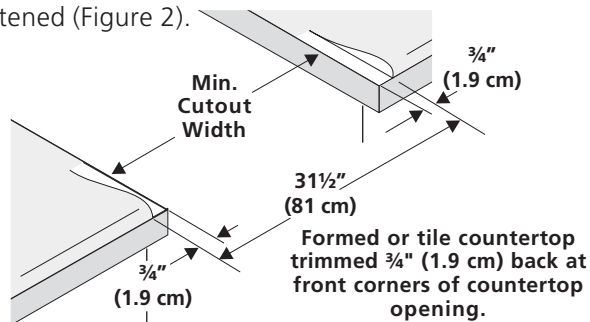

Figure 2
- Formed front-edged countertops** must have molded edge shaved flat $\frac{3}{4}$ " (1.9 cm) from each front corner of opening (Figure 2).
- Tile countertops** may need trim cut back $\frac{3}{4}$ " (1.9 cm) from each front corner and/or rounded edge flattened (Figure 2).